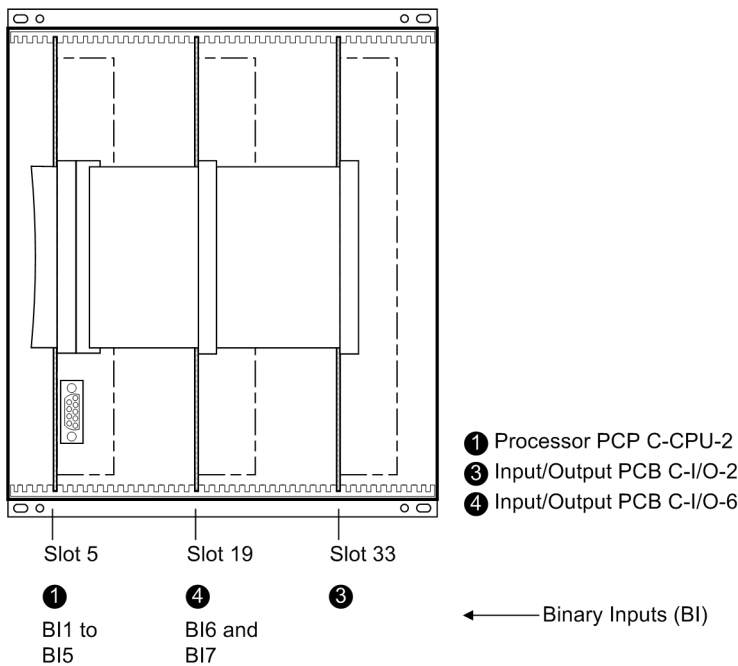
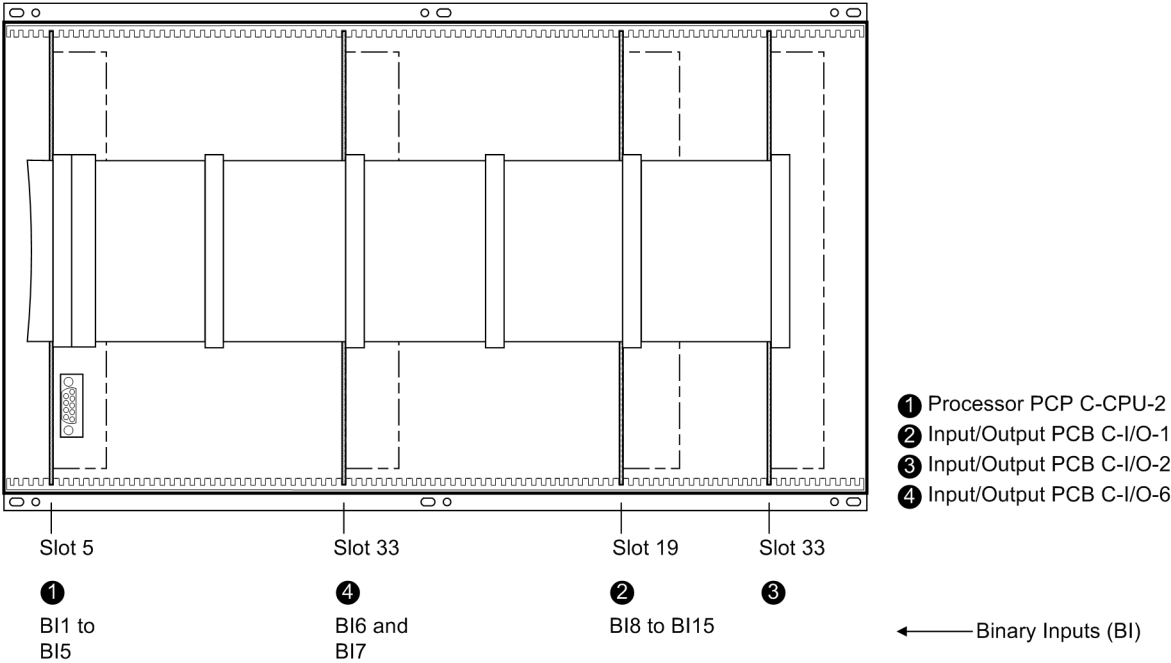
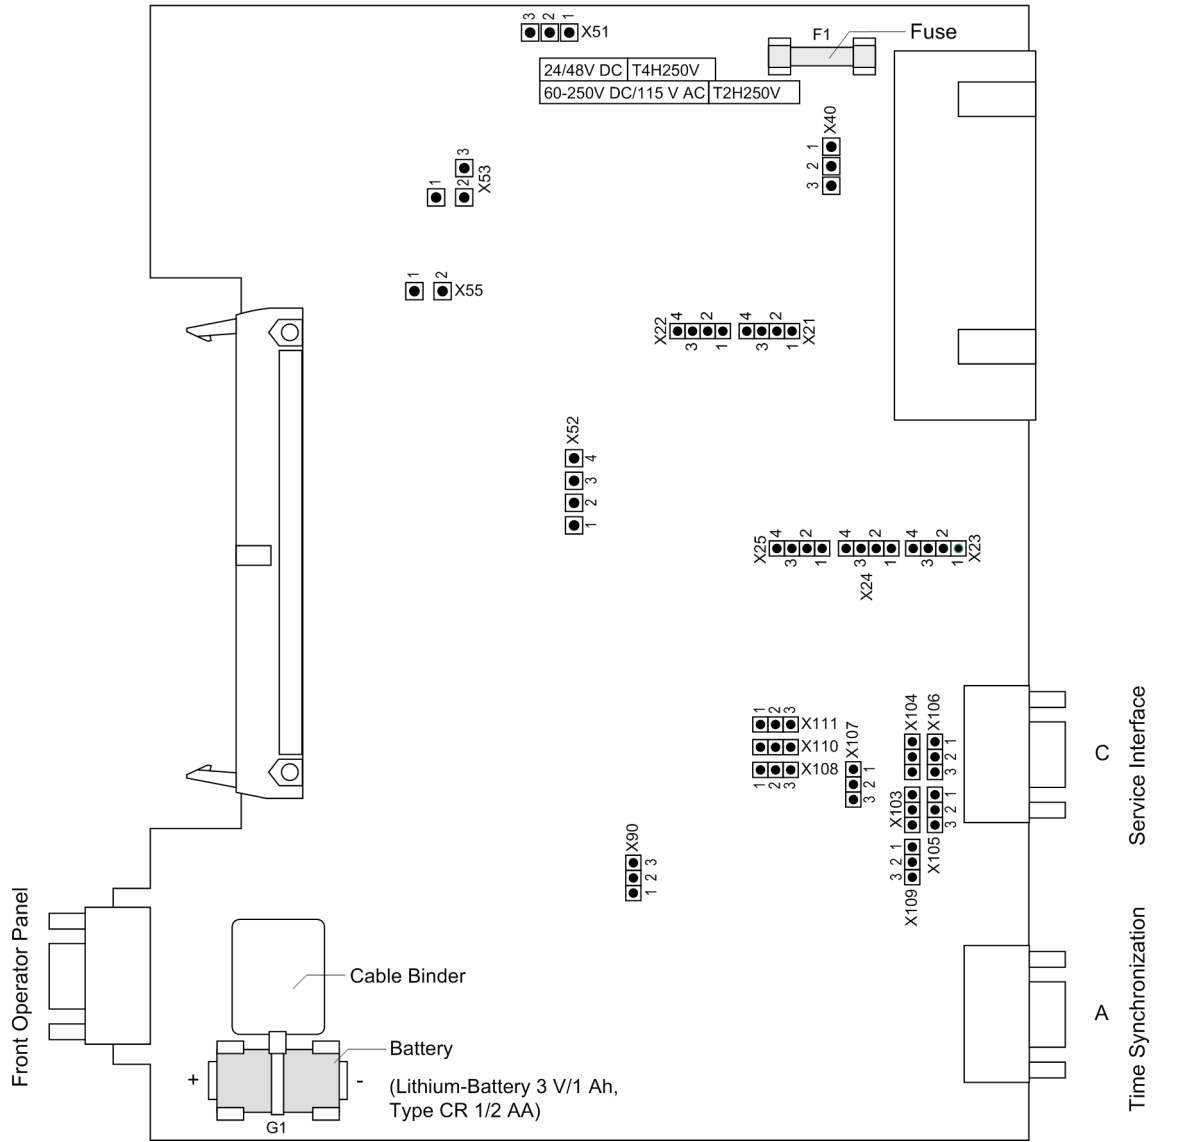

Figure 3-1 Front view of a 7UM621/623 (housing size 1/2) after removal of the front cover (simplified and scaled down)
Figure 3-2 Front view of a 7UM62 (housing size 1/1) after removal of the front cover (simplified and scaled down)
Figure 3-3 Processor board C-CPU with jumper settings required for the board configuration, of the battery and miniature fuse
Spare parts may be the backup battery that maintains the data in the battery-buffered RAM when the voltage supply fails, and the miniature fuse of the internal power supply. Their physical location is shown in Figure 3-3. The ratings of the fuse are printed on the board next to the fuse itself. When replacing the fuse, please observe the guidelines given in the SIPROTEC 4 System Manual /1/ in the chapter „Maintenance“ and „Corrective Action / Repairs“.
- Disconnect the ribbon cable between the front cover and the C-CPU-2 board (No. 1 in Figures 3-1 and 3-2) at the front cover side. To do this, spread the latches on the upper and lower end of the plug connector to release the plug connector of the ribbon cable.
- Disconnect the ribbon cables between the C-CPU-2 board (1) and the I/O boards (2) to (4), depending on the variant ordered.
- Check the jumpers in accordance with Figures 3-3 to 3-8 and change or remove them as required.
The allocation of the boards for housing size $1/2$ is shown in Figure 3-1 and for housing size $1/1$ in Figure 3-2.
Mounting locations of modules are shown in Figures 3-1 to 3-2.